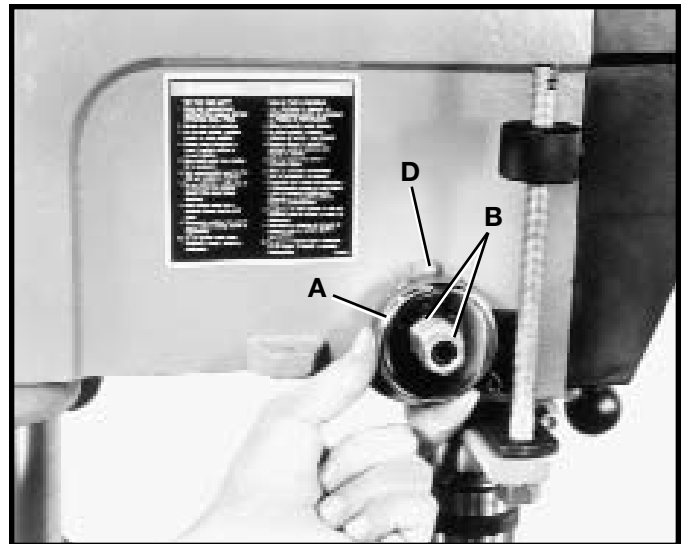

Fig. 28
3. While firmly holding spring housing (A) Fig. 28, pull out housing and rotate it until the boss (D) is engaged with the next notch on the housing. Turn the housing counterclockwise to increase and clockwise to decrease spring tension. Then tighten the two nuts (B) Fig. 28, to hold the housing in place. **IMPORTANT:** Nuts (B) Fig. 28, should not contact spring housing (A) when tight.